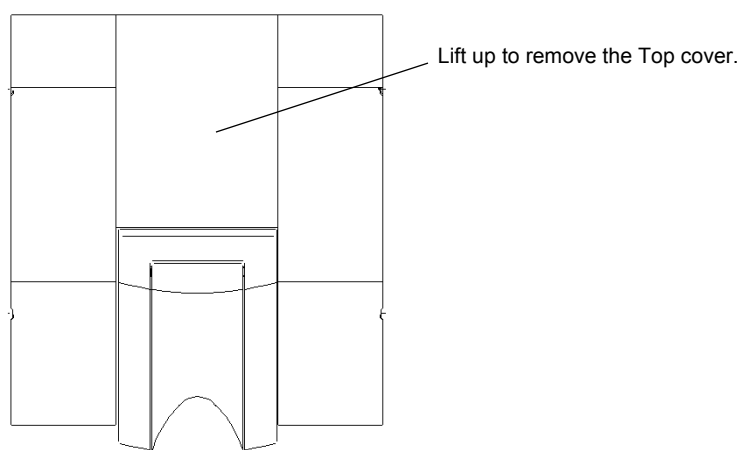

Fig. 5.5 Remove the Top Cover
1. Lift up the back side of the Top cover (Fig. 5.5) and then pull it up to remove the top cover. You can see the Silica gel case.